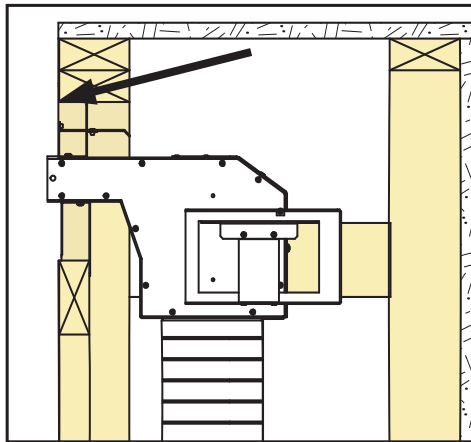

Figure 21. CSS - Top Standoff
Step 3: Insert the assembled CSS into the framed rough opening by rotating it down slightly to allow the outlet and standoffs to pass through. When installed correctly the front flange of the top standoff should be up against the front face of the top stud (Figure 21).
Step 4: Confirm the CSS is centered within the rough opening and secure in place using screws or nails through the four (4) holes along the top edge of the top standoff.